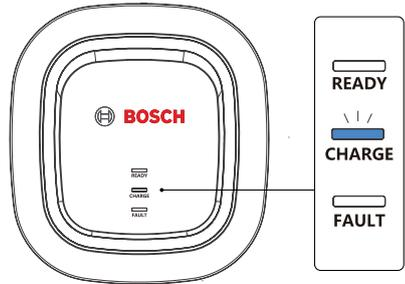

Fig. 2: Blue Status LED
Flashing blue	EV 300 providing charge (Fig. 2)
- ⇒ The blue LED flashes to indicate charging in process (shown in Fig. 2).